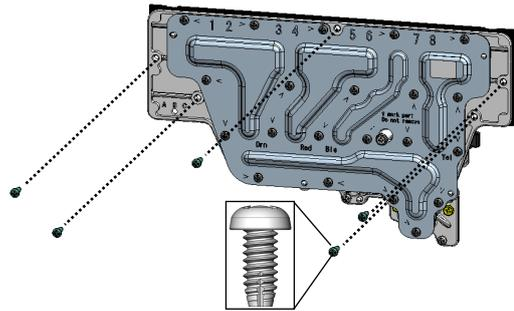

Figure 4
8. Remove the 5 screws around the perimeter of the existing gas manifold (Figure 4).